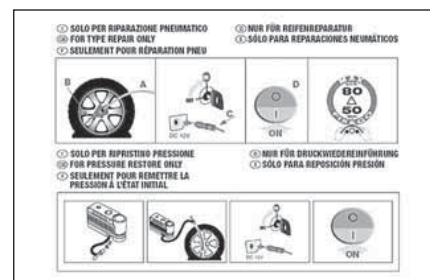

fig. 4
- ☐ instruction brochure **fig. 4**, to be used for prompt and proper use of the quick repair kit and to be then handed to the personnel charged with handling the treated tyre;